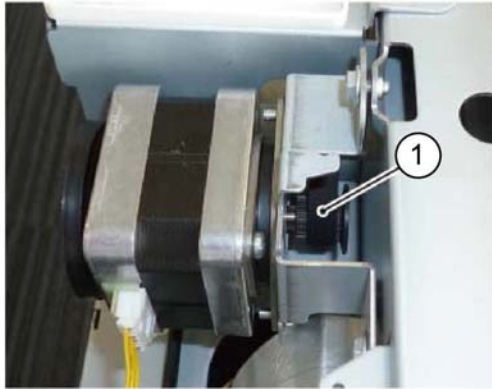

Figure 2 Timing belt
2. Attach the timing belt (1) to the IIT scan motor pulley, Figure 2.